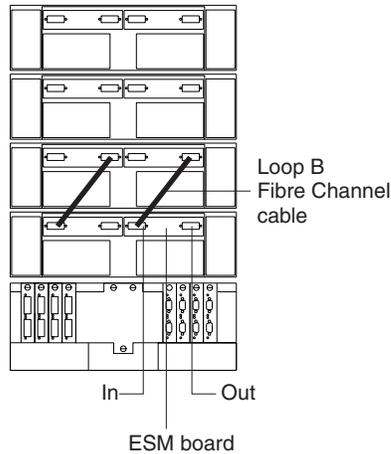

Figure 43. Connecting two drive enclosures into redundant drive loop B
2. Connect the same first two drive enclosures to drive loop B, as shown in Figure 43 on page 43.